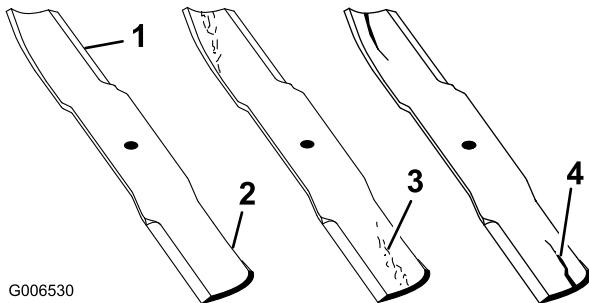

Figure 97
1. Inspect the cutting edges (Figure 97). If the edges are not sharp or have nicks, remove and sharpen the blades. Refer to Sharpening the Blades.
2. Inspect the blades, especially the curved area (Figure 97). If you notice any damage, wear, or a slot forming in this area (Figure 97), immediately install a new blade.